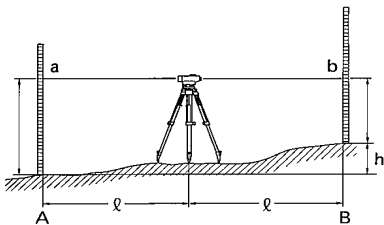

Fig.5.1
- 1) Set up the instrument at a point approximately halfway between points A and B (Fig.5.1). The reticle stadia lines can be used to optically compare the distances. (See "5.3 MEASURING DISTANCE USING THE STADIA LINES".)